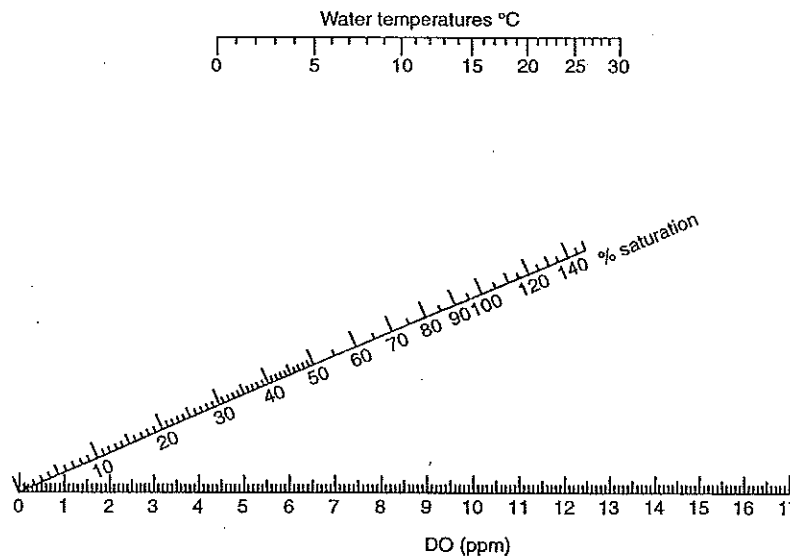

Figure 1.
The relationship between the amount of dissolved oxygen in water and water quality can also be expressed in terms of percent oxygen saturation. At any given temperature, water can hold a certain maximum amount of oxygen. The percent saturation refers to what percent of the maximum amount possible is contained within the water. Turbulent water often contains greater than 100% oxygen saturation. Rivers that have oxygen saturation levels between 90% and 110% are considered healthy. Water less than 90% saturated may contain large amounts of oxygen-demanding organic material. The graph shown in Figure 1 is called a *nomogram*. It is used
14. On the nomogram of oxygen saturation (see Figure 1), use a ruler to estimate the percent saturation of DO in each water sample. Line up the edge of the ruler with the temperature of the water on the top scale and the measured DO on the bottom scale, and then read the percent saturation from the middle scale.